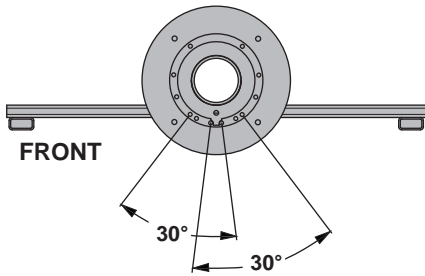

fig. 4.1
- 4 Refer to fig. 4.1, 4.2, 4.3, and 4.4, select the desired swivel degree. Using a 3/32" allen wrench, fasten two set screws (K) where indicated below to the outside of desired angle in steel base (C).